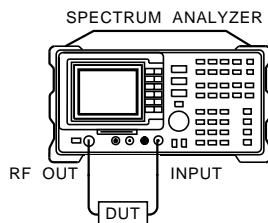

Figure 52 Transmission Measurement Test Setup
- 2 To measure the rejection of a low-pass filter, connect the equipment as shown in Figure 52. This example uses a filter with a cut-off frequency of 300 MHz as the DUT.